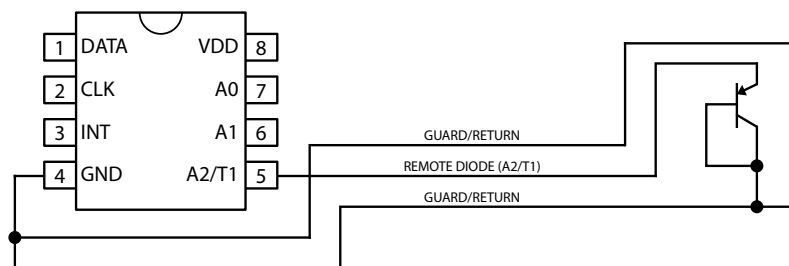

Figure 8. Guard Traces/Kelvin Ground Returns
2. Since any conductance from the various voltages on the PC Board and the A2/T1 pin can induce serious errors, it is good practice to guard the remote diode's emitter trace with a pair of ground traces. These ground traces should be returned to the MIC184's own ground pin. They should *not* be grounded at any other part of their run. However, it is *highly desirable to use these guard traces to carry the diode's own ground return back to the ground pin of the MIC184, thereby providing a Kelvin connection for the base of the diode. See Figure 8.*
3. *When using the MIC184 to sense the temperature of a processor or other device which has an integral on-board "diode" (e.g., Intel's Pentium® III), connect the emitter and base of the remote sensor to the MIC184 using the guard traces and Kelvin return shown in Figure 8. The collector of the remote "diode" is inaccessible to the user on these types of chips. To allow for this, the MIC184 has superb rejection of noise appearing from collector to GND, as long as the base to ground connection is relatively quiet.*